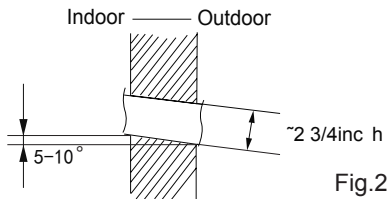

Fig.2
(2) Open a piping hole with the diameter of $\Phi 2\frac{3}{4}$ inch on the selected outlet pipe position. In order to drain smoothly, slant the piping hole on the wall slightly downward to the outdoor side with the gradient of $5\sim 10^\circ$.(As show in Fig.2)